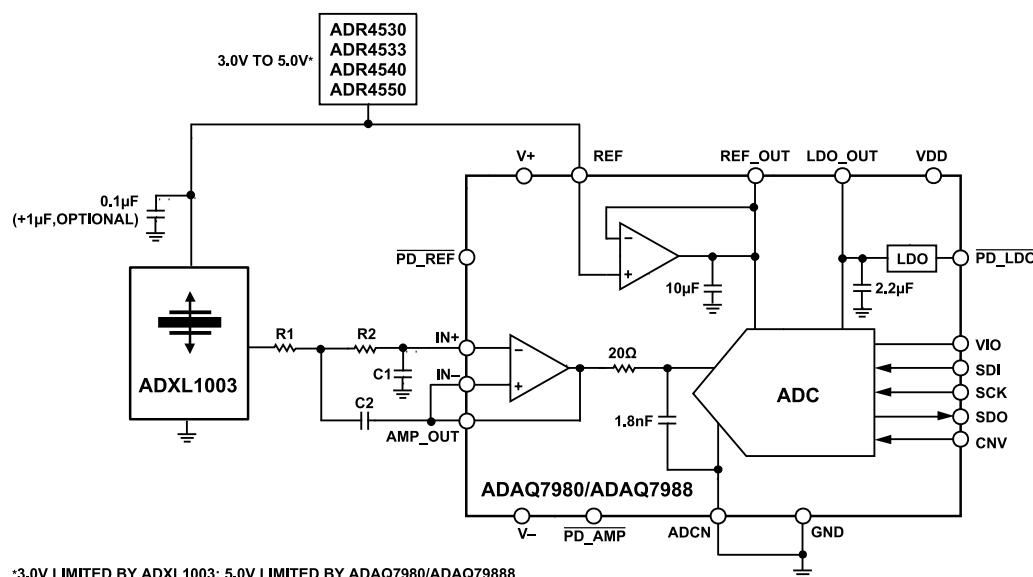

Figure 23. Application Circuit for the ADXL1003
See Figure 23 for an example of the interface, including components when measuring mechanical vibration from 0 kHz to 5 kHz. For a 5 kHz pass band, a single-pole resistor capacitor (RC) filter is acceptable. However, in some applications, use of a more aggressive filter and lower sample ADC sample rate is possible. The following components are recommended to form a 5 kHz low-pass RC filter at the output of the ADXL1003 when interfacing to an ADC, such as the ADAQ7980: $R1 = 8\text{ k}\Omega$, $C1 = 2\text{ nF}$, $R2 = 0\text{ }\Omega$, and $C2$ are not required. A minimum ADC sample rate of 20 kHz is recommended to avoid aliasing. When using sampling rates less than the resonance frequency (typically 28 kHz), be aware and account for the effective gain at the output of the sensor due to the resonance to ensure out of band signals are properly attenuated and do not alias into the band.
See Figure 23 for an example of the interface, including components when measuring mechanical vibration from 0 kHz to 10 kHz. The following components are recommended to form a two-pole RC filter at the output of the ADXL1003: $R1 = 8\text{ k}\Omega$, $C1 = 700\text{ pF}$, $R2 = 8\text{ k}\Omega$, and $C2 = 700\text{ pF}$. A minimum ADC sample rate of 200 kHz is recommended to avoid aliasing.